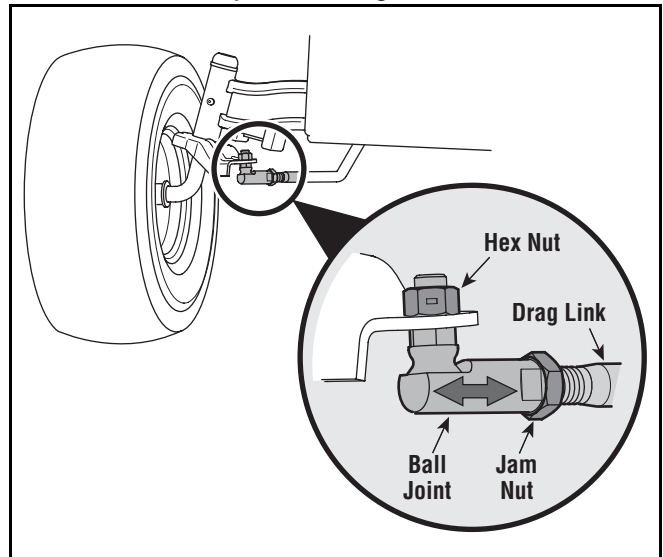

Figure 15
1. Loosen the jam nut found on the drag link at the rear of the ball joint. See Figure 15.
2. Remove the hex nut on the top of ball joint. See Figure 15.